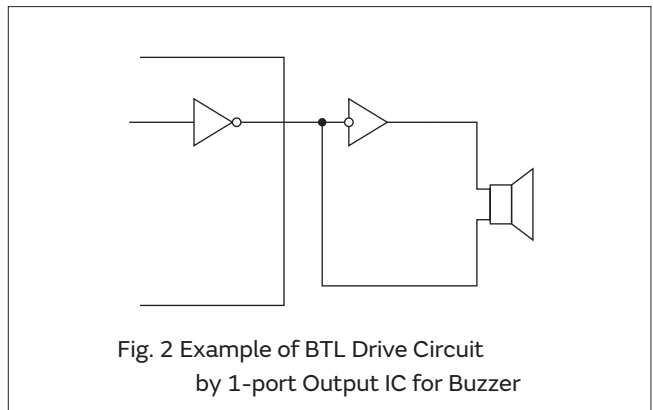

Fig. 2 Example of BTL Drive Circuit
- (2) In a case that is driven by IC directly like as Fig. 2, input voltage of Piezoelectric sound components should be twice as high because of the BTL (Bridge Tied Load) drive circuit, which includes an inverter.
When the piezoelectric diaphragm oscillates freely in air, the node does not move as shown in Fig. 1. With this point held with a measuring terminal, the resonant frequency (f_0) and resonant impedance (R_0) are measured in the constant-current circuit as shown in Fig. 2.